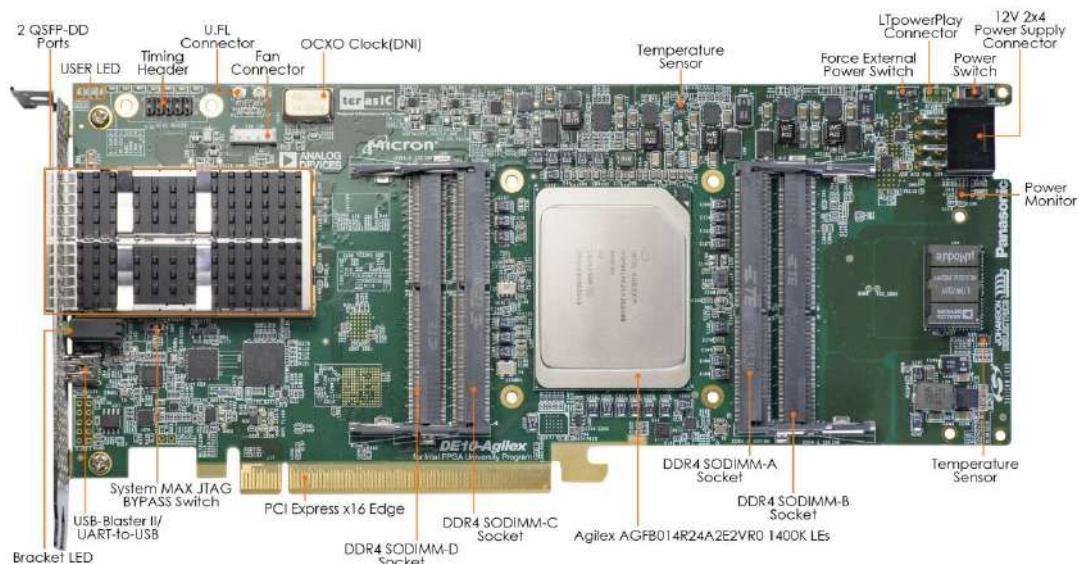
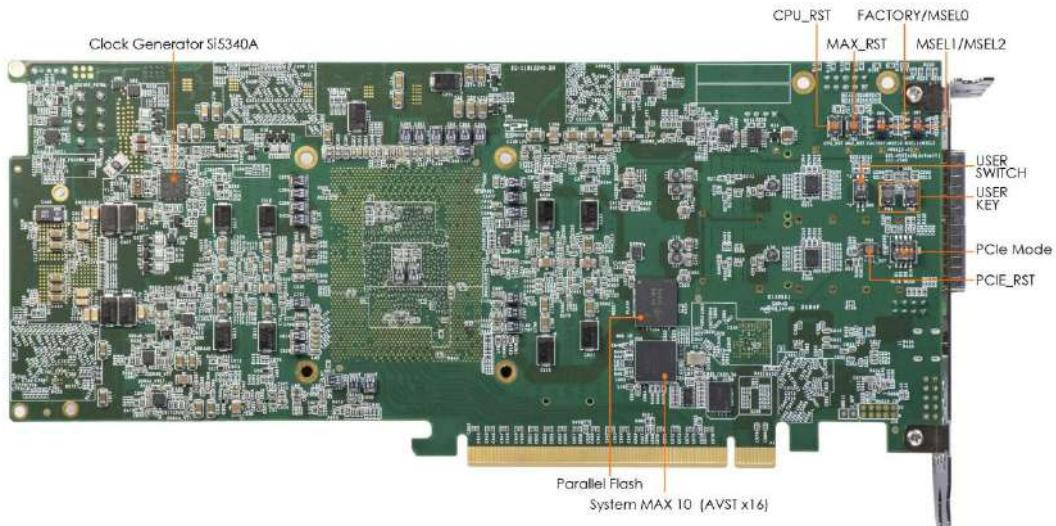

Figure 2-1 FPGA Board (Top)
Figure 2-2 FPGA Board (Bottom)
**Figure 2-1** and **Figure 2-2** is the top and bottom view of the DE10-Agilex development board. It depicts the layout of the board and indicates the location of the connectors and key components. Users can refer to this figure for relative location of the connectors and key components.